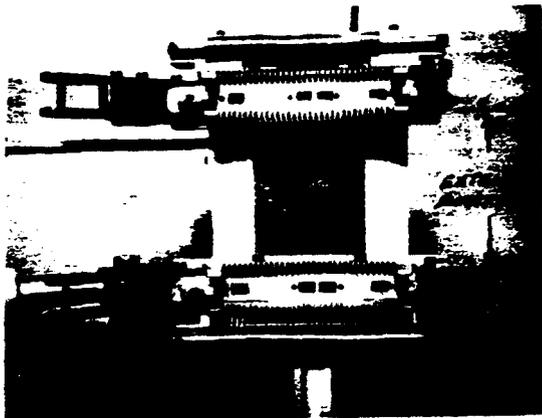

FIG. 17 EXTENDED COMB POSITION
4.25 Check that the combs are extended to the full open position each time a new pair of mandrels is to be wired. This is very important because the tool may have been left in the closed position inadvertently during handling. This can also occur following the completion of a previous half-tap operation. The upper comb is movable. A knob on the left side of the tool is moved outward to unlatch the upper comb from the closed locked position. Note: The upper mandrel is spring loaded; ease it into the extended position when unlatching. See Fig. 17.